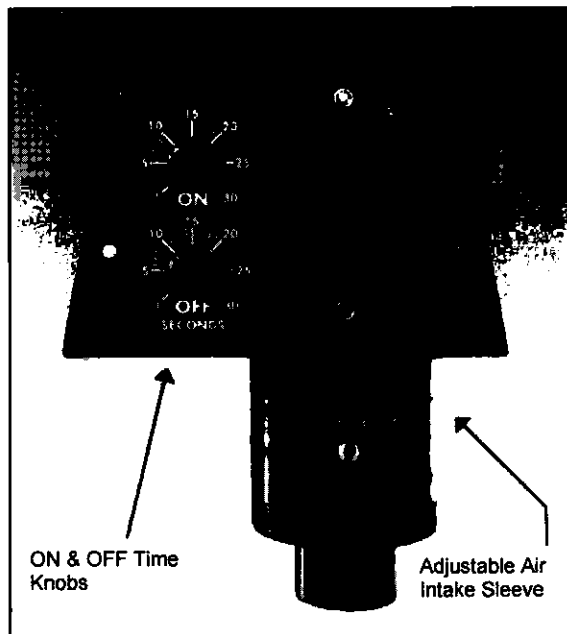

Figure 1 - Sentinel Air Injector Model 465 without top cover and filter.
3. Unscrew the filter retaining ring and lower the Air Filter to reveal the Adjustable Air Intake Sleeve. Set the Adjustable Air Intake Sleeve (Figure 1, page 5) according to the table in **Information for Adjustment** (page 5). Loosen the set-screw on the Air Intake Sleeve then rotate the outer sleeve in order to line up the indicator mark with the desired air flow. Then, tighten the set-screw.